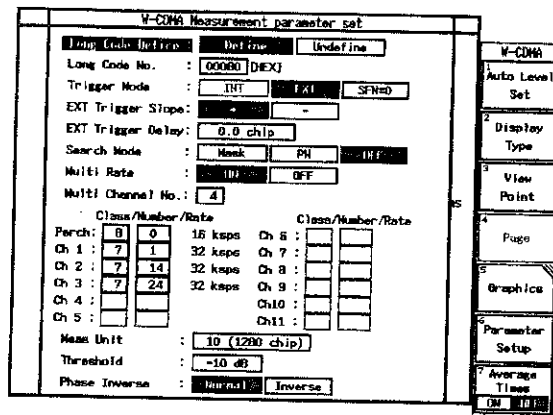

Figure 3-29 Setting of Parameter for W-CDMA Measurement Test
5. On the R3267/3273, set the parameter referring Figure 3-29.